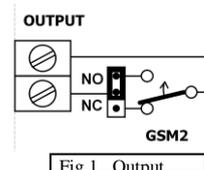

Fig.1 Output
- Four SMS controlled and isolated relay outputs with NO (Normally Opened), or NC (Normally Closed) terminals – see Fig.1 below.
The GSM2000 module features four control relay outputs. Each output has two installation terminals jumper configured to operate in normally opened (NO), or normally closed (NC) mode (see figure 1). Outputs feature the following "GSM2 Configurator" software set parameters: